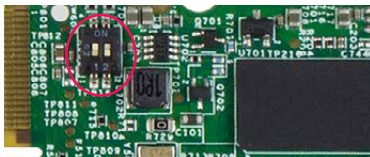
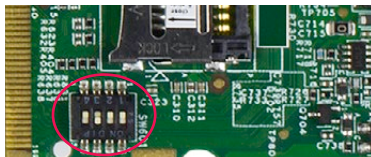

Figure 2. SW602 setting for internal boot mode
Figure 3. SW601 setting for internal boot mode
- Change SW602 back to ON, OFF (from 1-2 bit) to enter internal boot mode, and then switch SW601 to OFF, OFF, ON, OFF (from 1-4 bit) to boot from the MicroSD card, as shown in Figure 2 and Figure 3. After the board images are programmed and the boot switches are correctly configured, the system is ready to run.